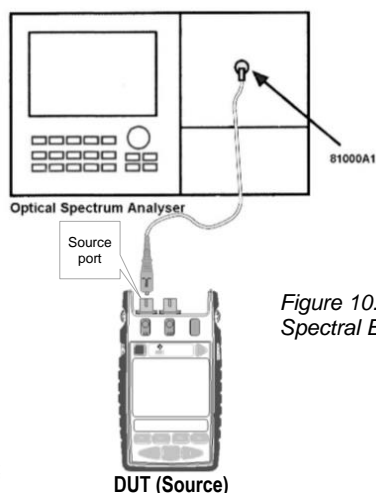

Figure 10. Centre λ and Spectral Bandwidth tests
- 1. Connect the equipment as shown in Figure 10 (next page).